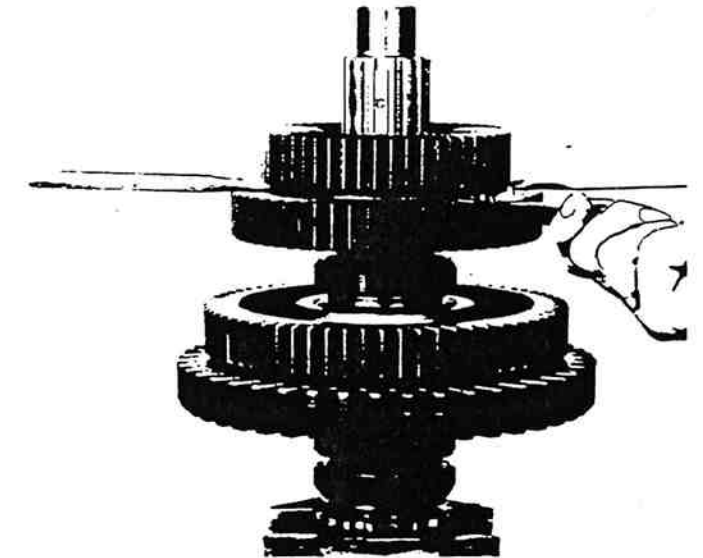

Figure 13-136. Checking Clearance.
22. Check axial clearances and make adjustments, if necessary, between the 3rd and 4th speed gears in the same manner as performed between the 1st and 2nd speed gears (figure 13-136).